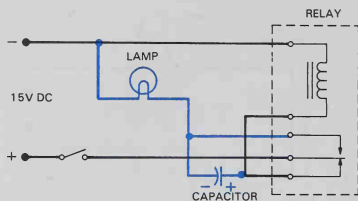

Fig. 18-22. The diagram for a mechanical oscillator using RC time constants.
If a striker is attached to the vibrating armature of the buzzer, it can be arranged to strike a bell. Now you have a doorbell. See dotted lines in Fig. 18-22.
1. Connect the mechanical oscillator circuit as described in Fig. 18-22. You will need the following extra parts.